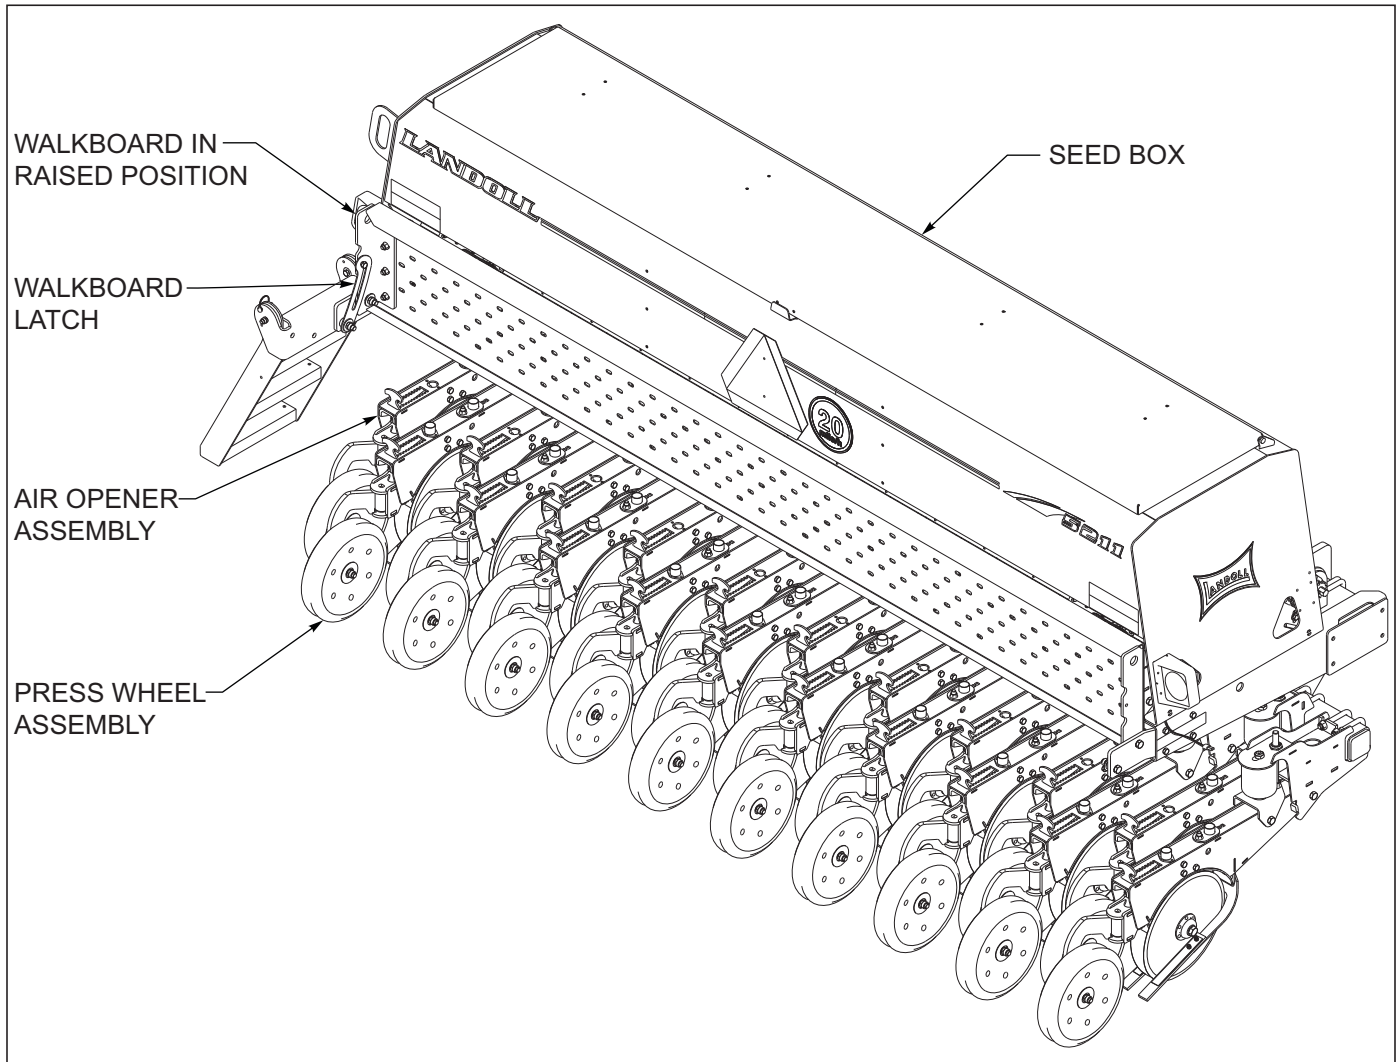

Figure 4-28: Walkboard Adjustment
1. The walkboard on the Grain Drill provides a stable platform to work from while filling the seed box See Figure 4-28.